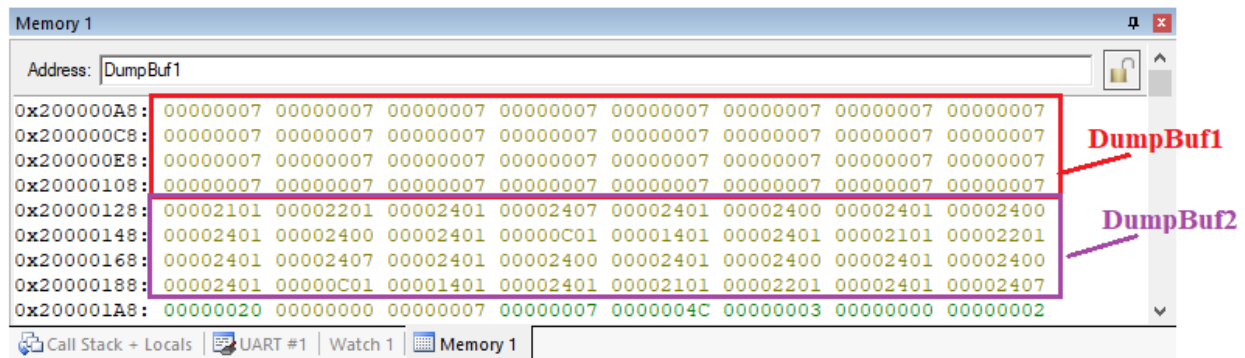

Figure 5.9. Typical debugging dump.
To collect the debugging dump, reset the software, activate all three input switches, and then run. Figure 5.9 shows a typical dump showing the first 32 states. The memory 1 window is set for unsigned hex long. The red rectangle shows the inputs are all 7, the purple rectangle shows the proper output sequence 0x2101, 0x2201, 0x2401, 0x2407,....
5. ~~Debugging dump, like Figure 5.9 (skip this Spring 2023)~~